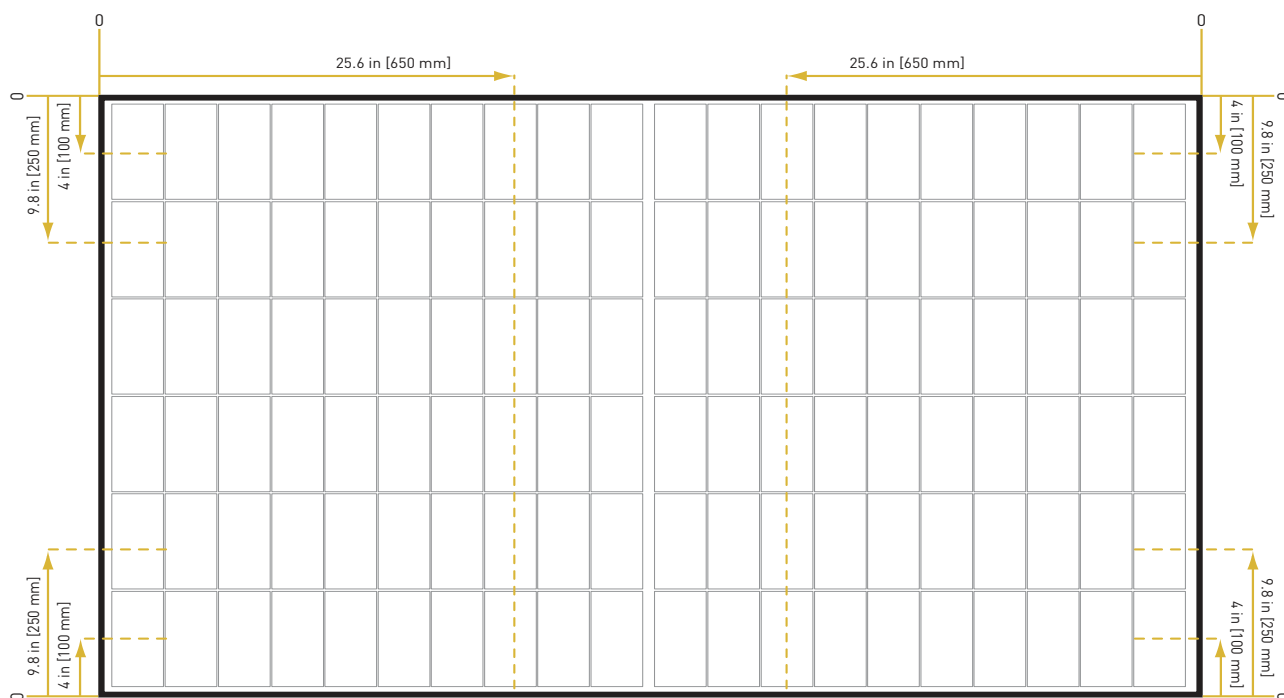

Figure 8: Clamping of modules with rails parallel to long side of the module
The center point of each clamp and the minimum grip length must be fully located in the same clamping zones to be rated to that load (Figure 8).
- All four mounting holes in the frame must be used (fig. 8),